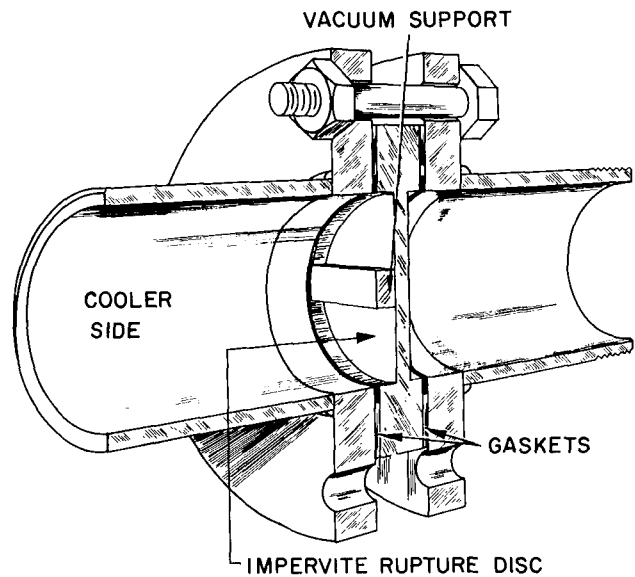

Fig. 3-3 - Rupture Valve Assembly
**Rupture Valve** - The rupture valve (Fig. 3-3) is a safety feature containing a replaceable Impervite rupture disc designed to rupture at 15 psig. This prevents dangerous pressures from developing in the machine in case of fire in the machine area.